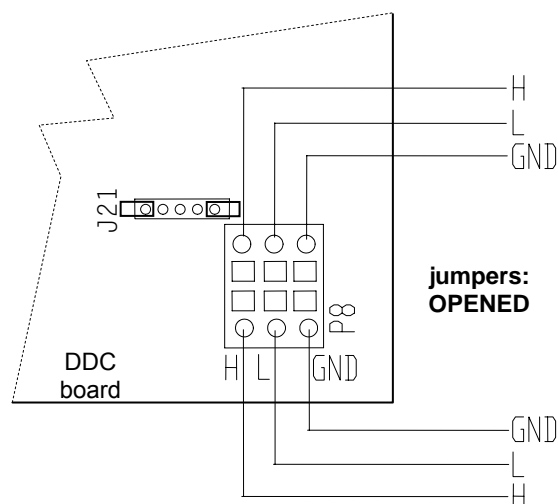

Figure 18 - Connection of 2 CAN BUS cables to DDC: DDC IS AN INTERMEDIATE NODE. The positions of CAN BUS cable wires and "H21" jumpers are pointed out: OPENED.
- if DDC is an **intermediate node** on the network (6 wires in "P8" orange connector): locate jumpers on DDC as shown in Figure 18: OPENED.
6. **For intermediate nodes only:** Repeat operations in points 1 to 4 for the other CAN BUS section end necessary. Also follow point 5, but refer to Figure 18, Page 36 for connecting cable to "P8" connector. Then, go to point 8.